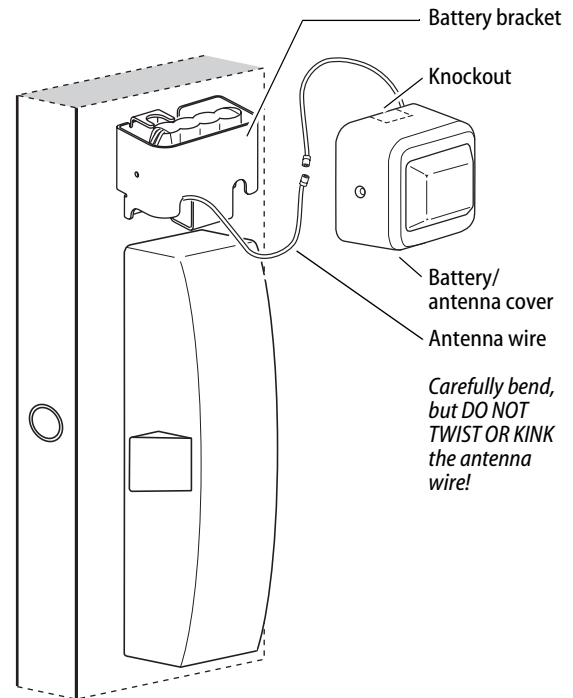

Figure 30 Installing the battery cover over the battery bracket and connecting the antenna
- 1 If installing with a surface vertical rod exit device, carefully use a razor blade to remove the knockouts for the rod from the battery cover. See Figure 30.